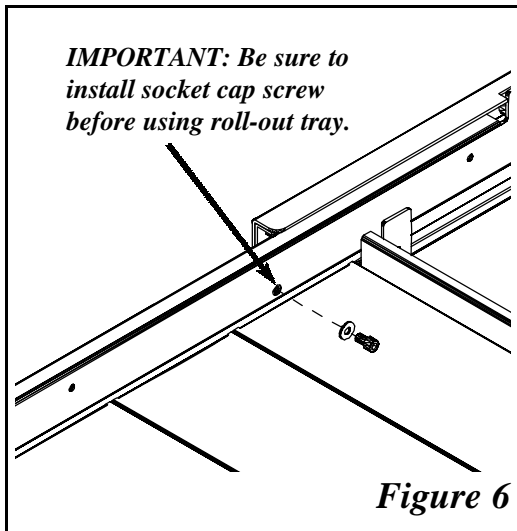

Figure 6
- Be sure that rear back panel of tray ① is pushed in past the hole in extension track with pem nut. Insert 5/16" socket cap screw ③ and bowed serrated security washer into pem nut in left and right extension tracks ④ and ⑤. Secure tightly with 1/4" allen wrench (See Figure 6).
- Re-install galvanized tray inserts ⑥ into tray ①.
- Remove end cap ⑨ from handle by carefully prying off with a small flat head screwdriver.
- Install label and plastic cover ⑩ into handle by sliding in from one end of handle.
- Snap-in end cap ⑨ into the end of the handle.